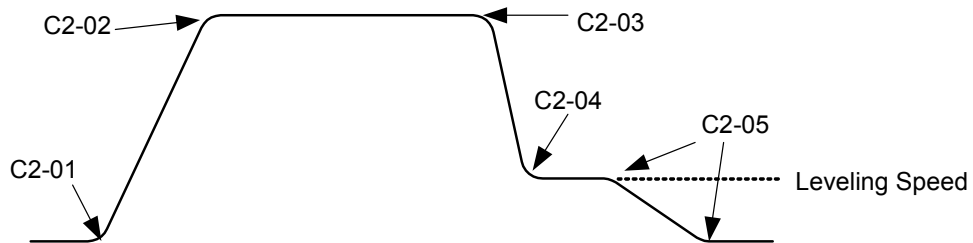

Fig 5.7 S-curve settings
*Fig 5.7* shows the influence of the different S-curve times.